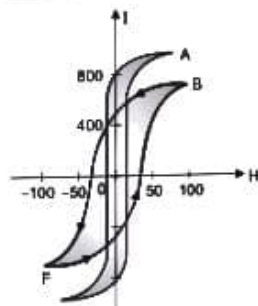

Fig. 5.4 : Hysteresis curve : A – soft iron, B – Hard steel
- Fig. 5.4 shows the shapes B and A in the case of steel and soft iron respectively. From the curves it is seen that soft iron has greater retentivity than steel but less coercivity or in other words, steel retains magnetism